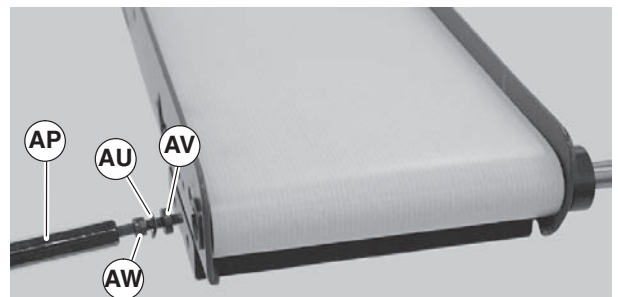

Figure 28
2. Place pulley screw (Figure 28, item AW), wave washer (AU) and flat washer (AV) onto small end of hex key wrench extension tool (Figure 28, item AP) (25-08).